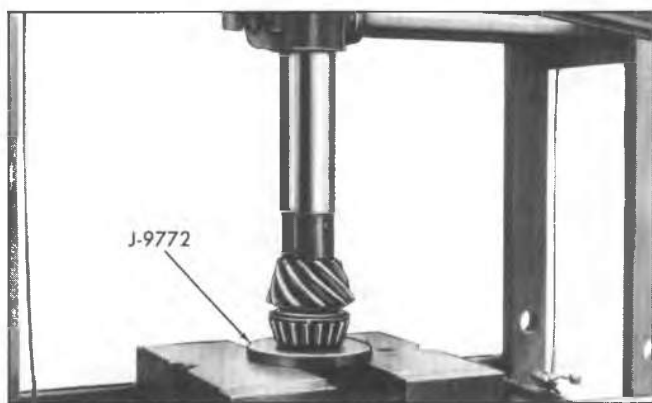

Fig. 4C-9--Installing Inner Pinion Core and Roller
1. Determine proper inner shim pack (for setting pinion depth) by using chart (fig. 4C-8).
5. Press inner pinion bearing cone and roller onto pinion shaft using Installer J-9772 on arbor press as shown in Figure 4C-9.
7. Install shims and outer pinion cone and roller on pinion shaft using Tool J-5590 and companion flange to press bearing onto pinion (Fig. 4C-10).